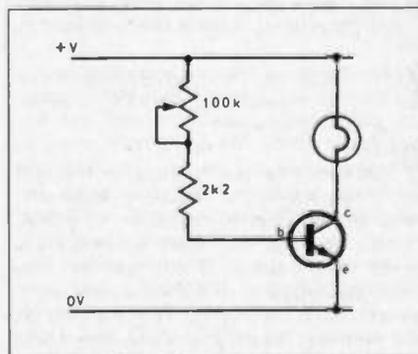

Fig. 11.4. A "dimmer" for a small lamp.
**S** Or our light "dimmer", with a variable resistor in the base circuit of the transistor driving the lamp (Fig. 11.4).